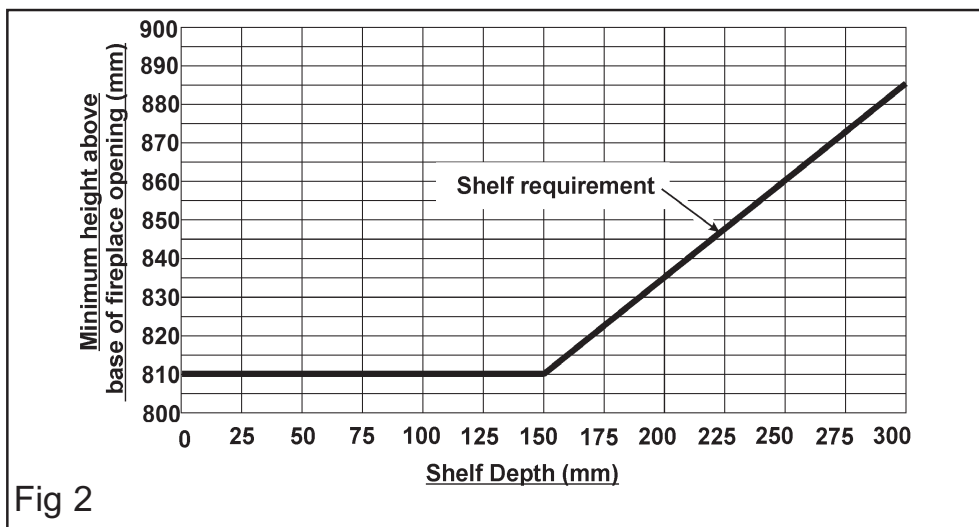

Fig 2
***Dream, Masquerade, Excelsior, Petrus & Allure models (Figure 2):***